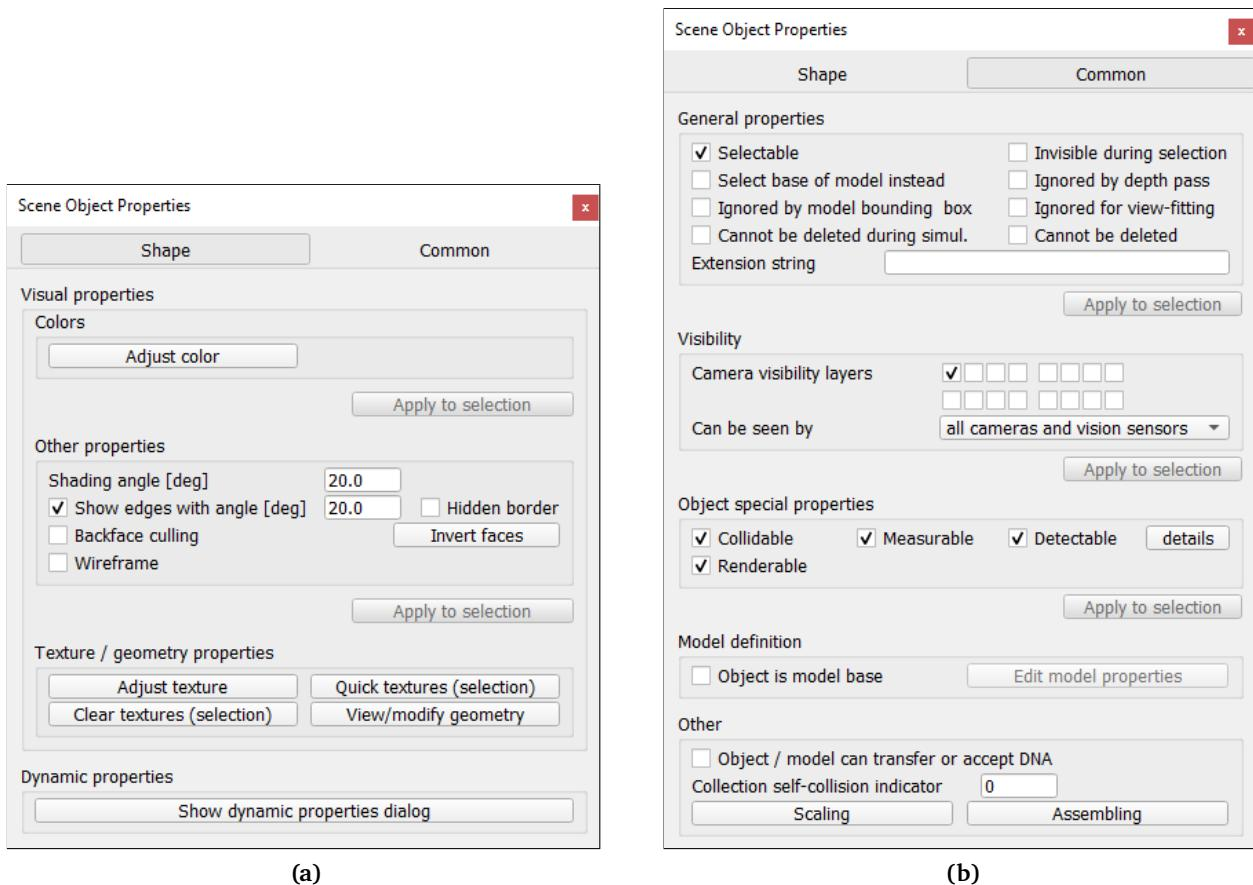

Figure 5. Shape (a) and Common (b) object property dialogs.
Before disabling the default script that is commanding the robot, let's first adjust a few properties of the obstacle. Check that the simulation is stopped, otherwise you will not be able to modify any parameter. In the *Scene hierarchy*, double click on the icon next to the cuboid object. A dialog with two tabs (Figure 5) should appear.
- The *Common* tab deals with the object's response to external events. Make sure that everything looks like in Figure 5(b) to allow all types of sensors to properly detect it.